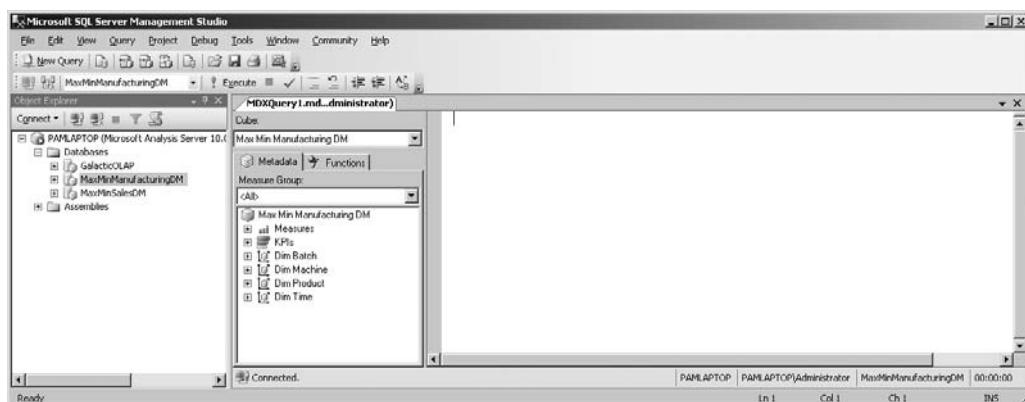

Figure 12-1 The SQL Server Management Studio with an MDX Query window
4. Right-click the entry for the MaxMinManufacturingDM database and select New Query | MDX from the context menu. The MDX Query window displays, as shown in Figure 12-1.